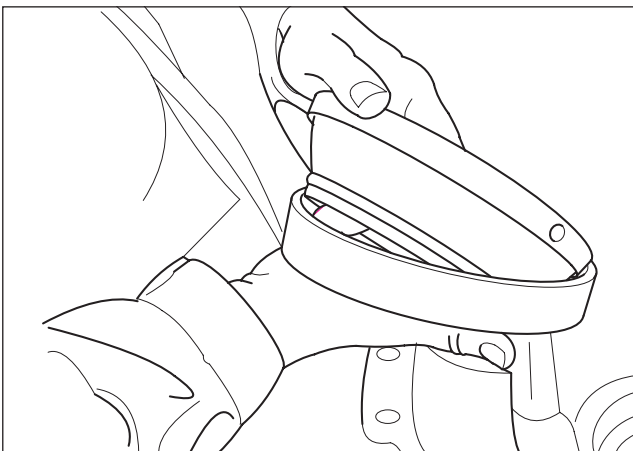

Fig. 2.46
- Mount bearing cup onto service tool CT23. (Fig.2.46)